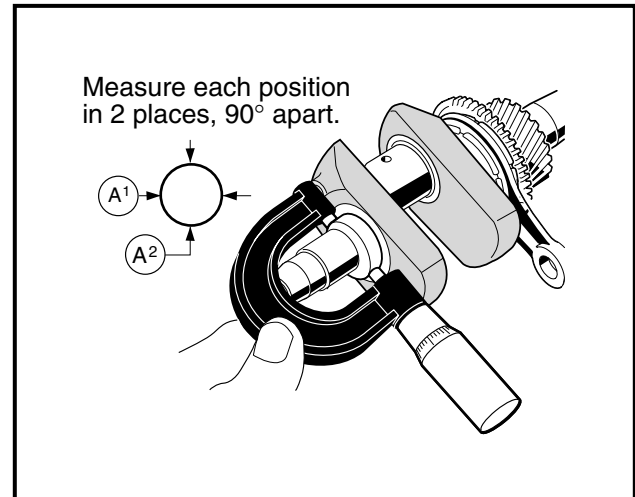

Figure 13-84 Measure Link Rod Journals
6. Using a micrometer, measure crankshaft link rod journals at several points (**Figure 13-84, Page 13-40**).